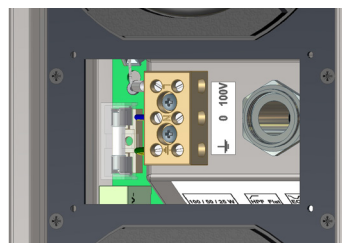
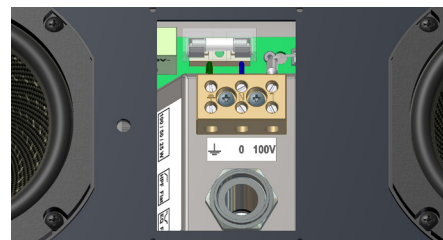

fig.12.1 - Fuse location (Model V90)
fig.12.2 - Fuse location (Model H90)
1. The glass fuse is designed to protect against excessive current being drawn by the unit. The fuse is a standard 20 mm diameter 1 A anti-surge type. Only replace this with a fuse of the same type and rating. In the event of the fuse needing replacement, remove the protective cap from the fuseholder. The fuse can be removed from the holder by inserting a small screwdriver or similar through the holes in the top of the holder. Refer to fig.12.1 (Model V90) and fig.12.2 (Model H90).